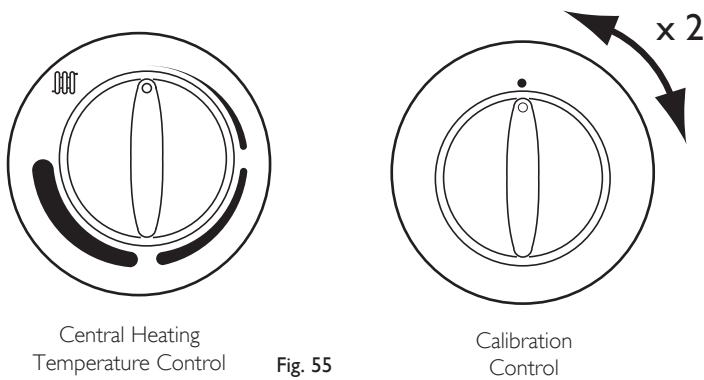

Fig. 55
3. Turn both temperature control knobs fully anticlockwise, then quickly turn the Calibration Control knob $\frac{1}{4}$ clockwise twice and back fully anticlockwise (Fig. 55).